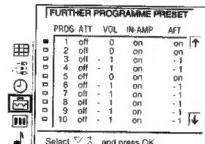

Fig. 18
- Select »Further Programme Preset« with $\Delta+$ or $\nabla-$ and press OK. The FURTHER PROGRAMME PRESET menu appears (See Fig. 18).